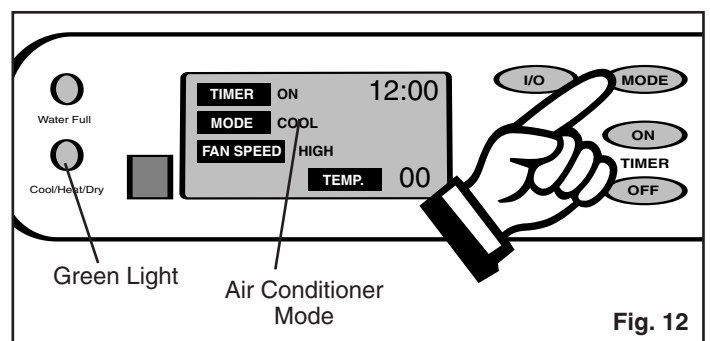

Fig. 12
3) Press the **MODE** key until the word **COOL** is displayed in the **LCD (Liquid Crystal Display)** window. *Fig. 12.* Each depression of the **MODE** key will advance to a different mode setting (**Cool-Dry-Heat-Fan**).